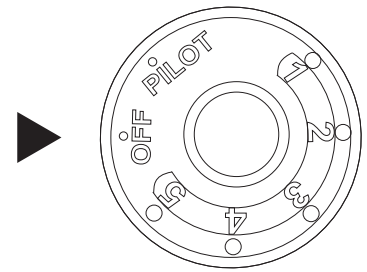
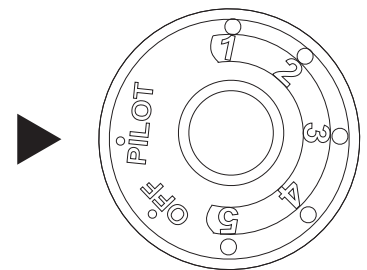

Fig. 14
Fig. 15
3. Turn control knob clockwise  to "OFF" position (see Fig. 14).
4. Wait (5) minutes to clear out any gas. Then smell for gas, including near the floor. If you smell gas, **STOP!** Follow "B" in the safety information above. If you don't smell gas, go to the next step.
5. Turn knob counterclockwise  to the "PILOT" position. (see Fig. 15). Depress control knob.